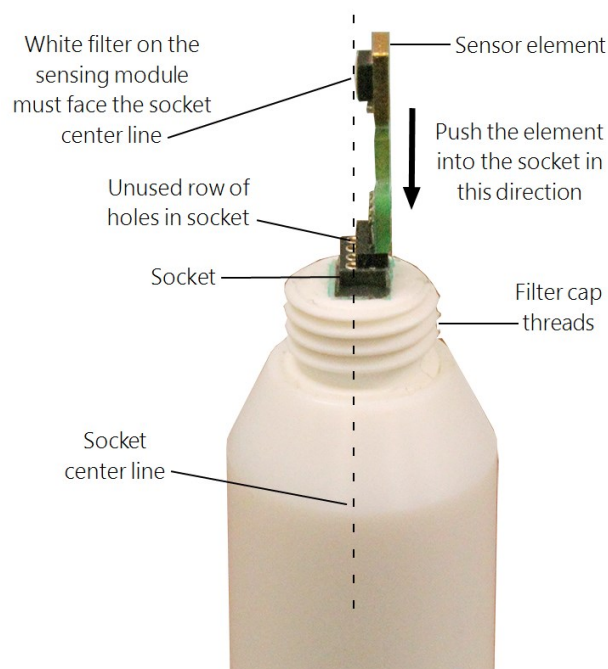

Figure 8-4. Correct fit of the 4-pin sensor element (side view)
7. Hold the replacement element by the sides of the circuit board. The element has four gold pins. Carefully match the gold pins to a row of holes in the socket with the sensing module facing the socket center towards the empty row of holes (see Figure 8-4 [p. 20]). Gently push the pins down into the socket until they will not go in any further.
8. Before replacing the filter cap and connecting the sensor to a data logger, double-check that the element is seated correctly with the sensing module facing the socket center, towards the empty row of holes (see Figure 8-4 [p. 20]).